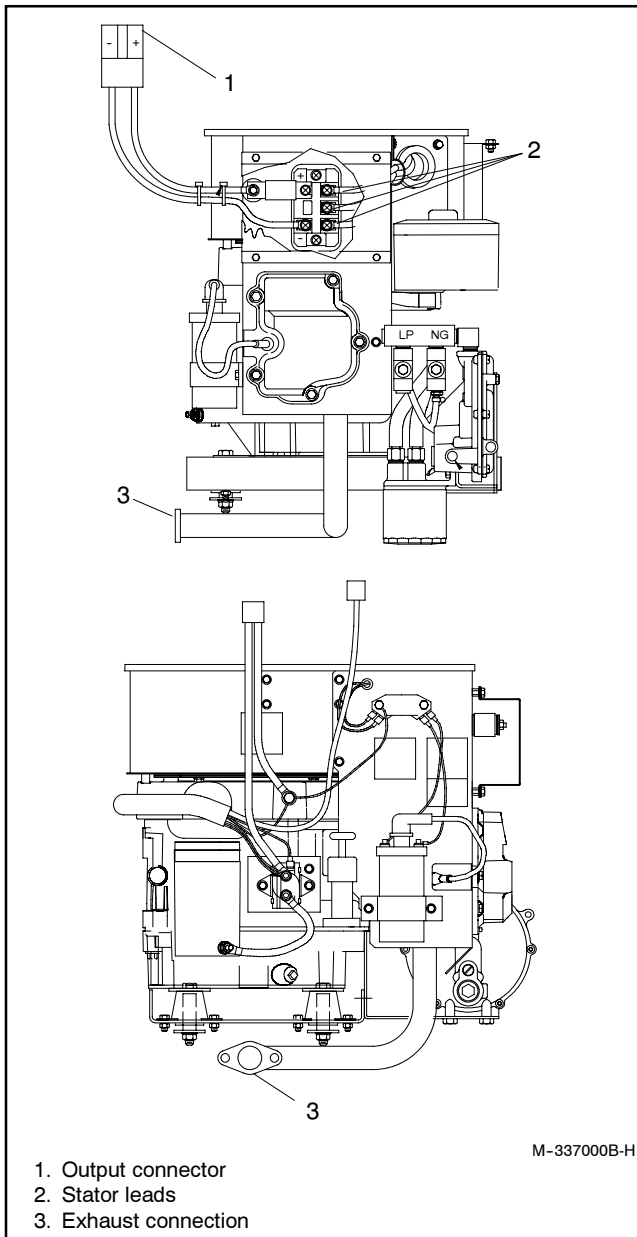

Figure 7-2 Generator Set
- Note the three stator lead connections to the voltage rectifier for reconnection later. Disconnect the stator leads from the voltage rectifier. See Figure 7-2.